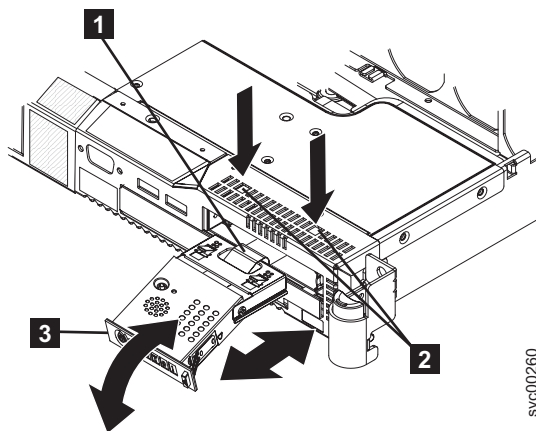

Figure 213. Removing the SAN Volume Controller 2145-8G4 operator-information panel
10. Press the two release buttons (2 in Figure 213) that are visible through the top of the node and pull the assembly 3 completely out of the node. Carefully pull the attached light path ribbon cable 1 out of the server.